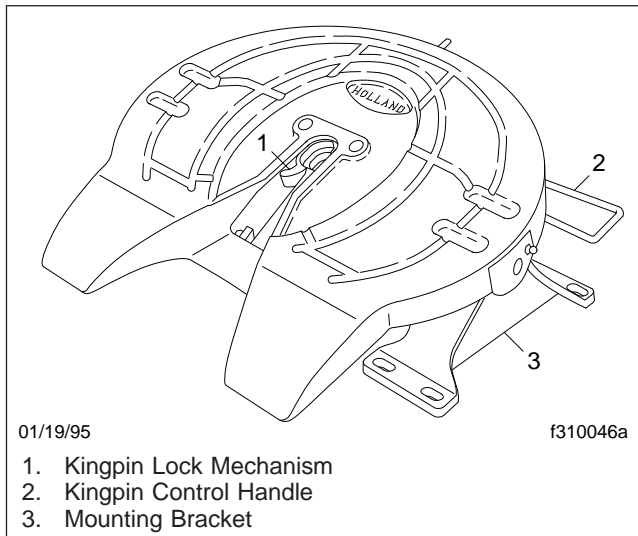

Fig. 10.1, Holland Fifth Wheel
The 2535 sliding fifth wheel models incorporate a Model 3500 fifth wheel (**Fig. 10.1**), equipped with either an air-operated release slide, or a manual release slide. Sliding fifth wheel assemblies are mounted on a baseplate that permits forward and rear movement along notched rails. Plungers are meshed into teeth on the baseplate to lock the sliding mechanism. Disengagement of the sliding member is accomplished when the plungers are withdrawn (manually or air-operated), releasing the fifth wheel assembly so that it can be positioned for optimum weight distribution over the tractor axles.
6. Release the kingpin locking mechanism by pulling the kingpin lock control handle (**Fig. 10.1**) to the outward position.